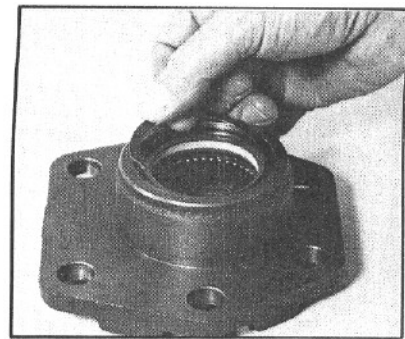

Figure 133
32. Assemble the side cover retaining ring (53) into the ring groove of the side cover (58) (FIG. 133).